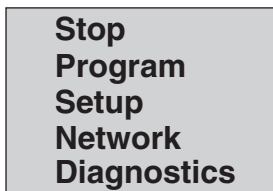

Fig. 9
9. Once all timers have been set to the desired time press **ESC** three times to return to the Parameter Assignment Menu screen. (See figure 9)